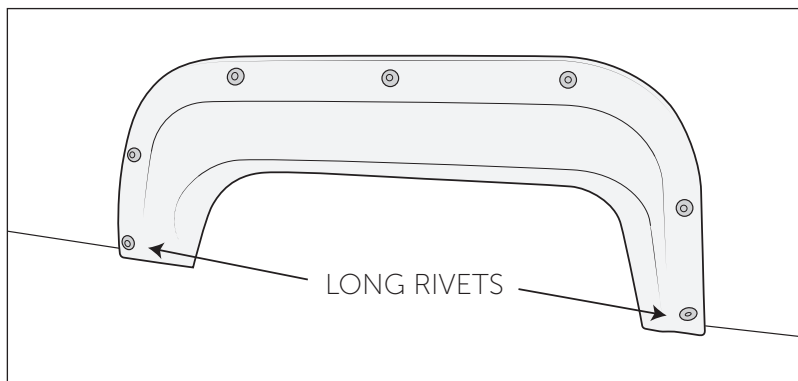

Figure 4
- Install hood bezel using supplied 1/8" black rivets. The long rivets go in the front and rear bottom holes through multiple layers of hood, the shorter are used on the rest of the locations (fig. 4). Extra of both rivets are provided in case of any issues. Suggest installing all rivets loosely before popping them.